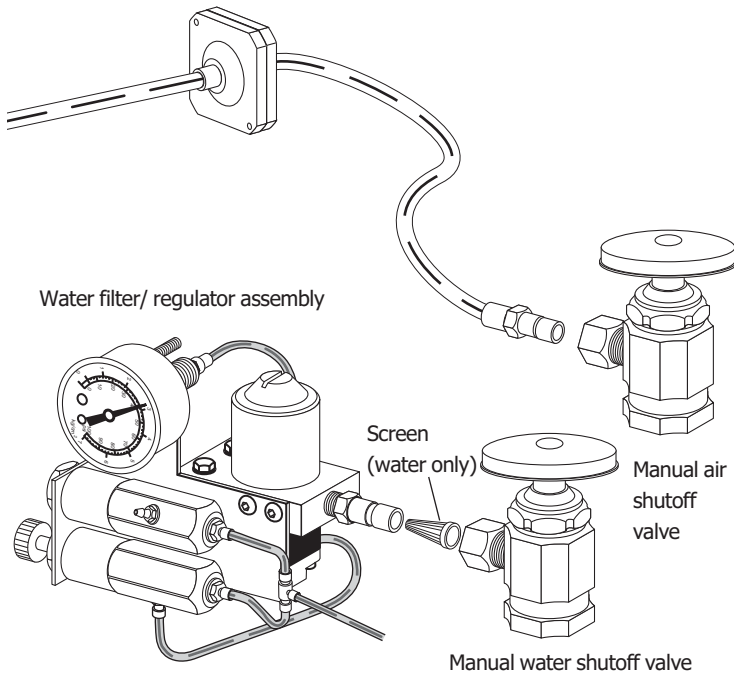

Figure 17
4. Loosen the hex nut on the air and water manual shutoff valves (see Figure 17).
5. Install the water screen in the water filter / regulator, identified by the black valve body (see Figure 17).
6. Connect the air tubing and the water filter / regulator to the manual shutoff valves (see Figure 17). Do not overtighten the fittings.